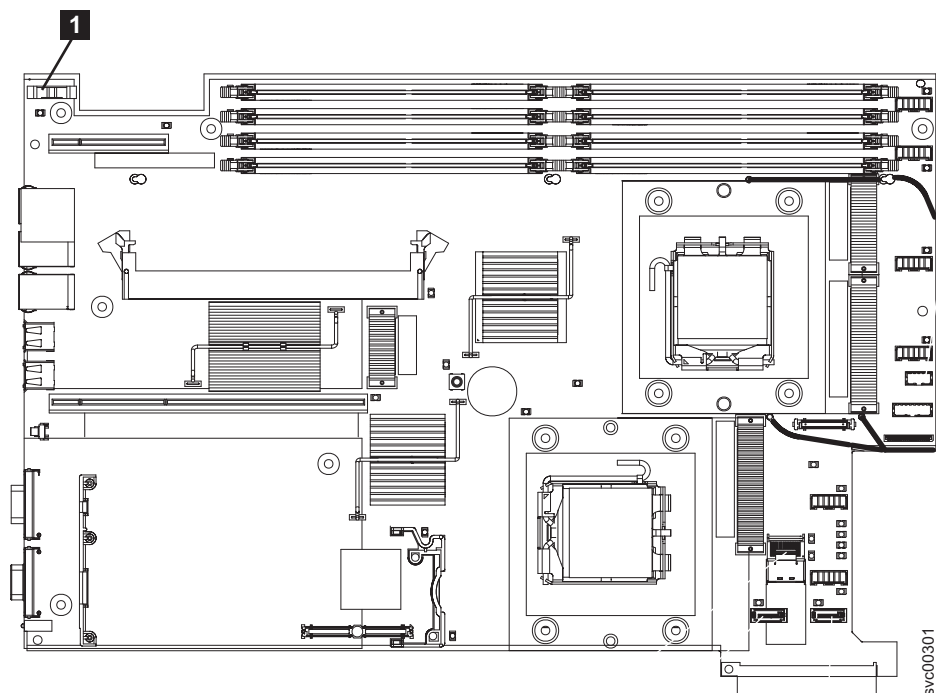

Figure 176. Location of SAN Volume Controller 2145-8G4 CMOS battery holder
2. Locate the battery on the system board. Figure 176 shows the location (1) of the battery.